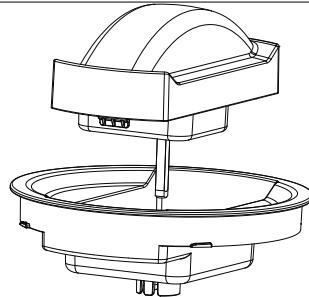

Fig. 5
- Mount the motor block on the lid (see Fig. 5).